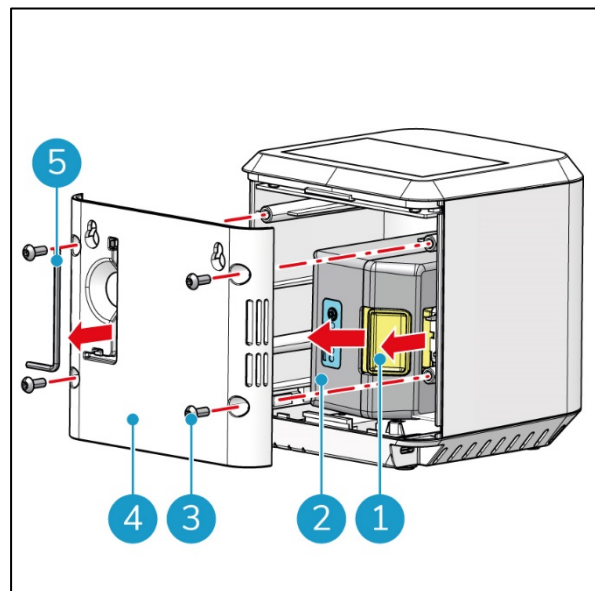

Figure 7
1. Remove the four Allen screws (Figure 7, pos 3) using the Allen key (Figure 7, pos 5).
2. Remove backside (Figure 7., pos 4) of the i-sense.
3. Remove or insert the battery (Figure 7., pos 2) by pushing the yellow button (Figure 7, pos 1).